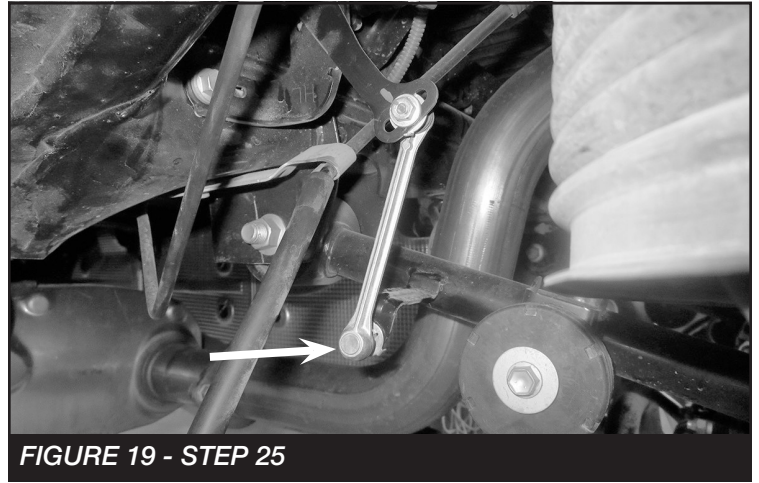

FIGURE 19 - STEP 25
25. Locate the air spring height adjustment rod on the upper link. Disconnect the rod at the lower mount from the link tube. **SEE FIGURE 19**